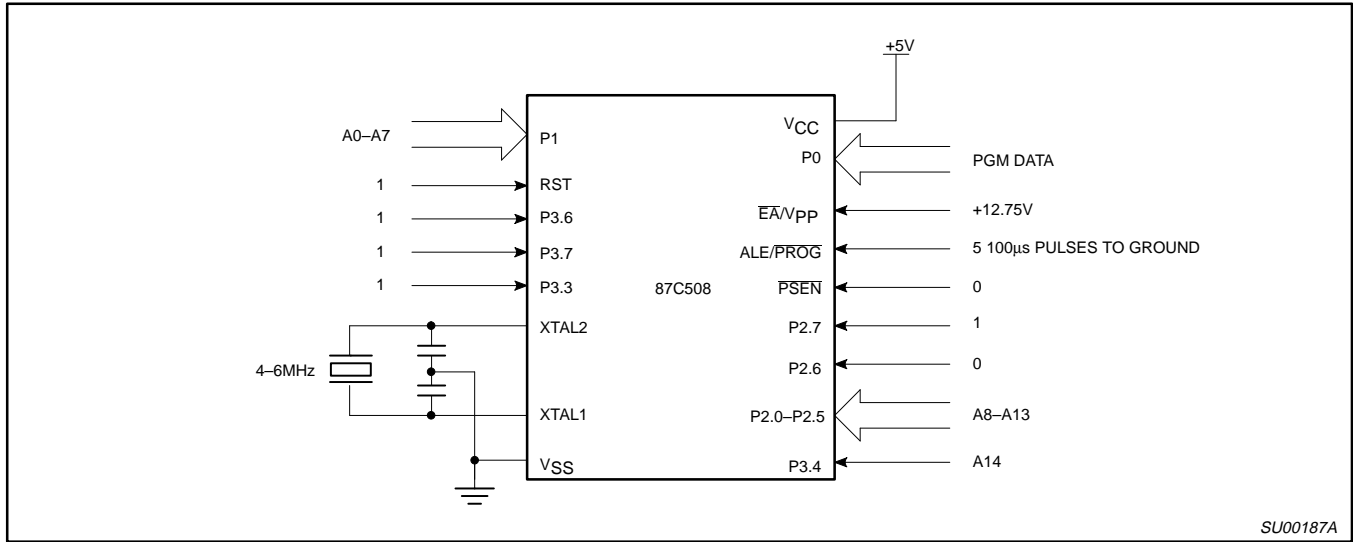
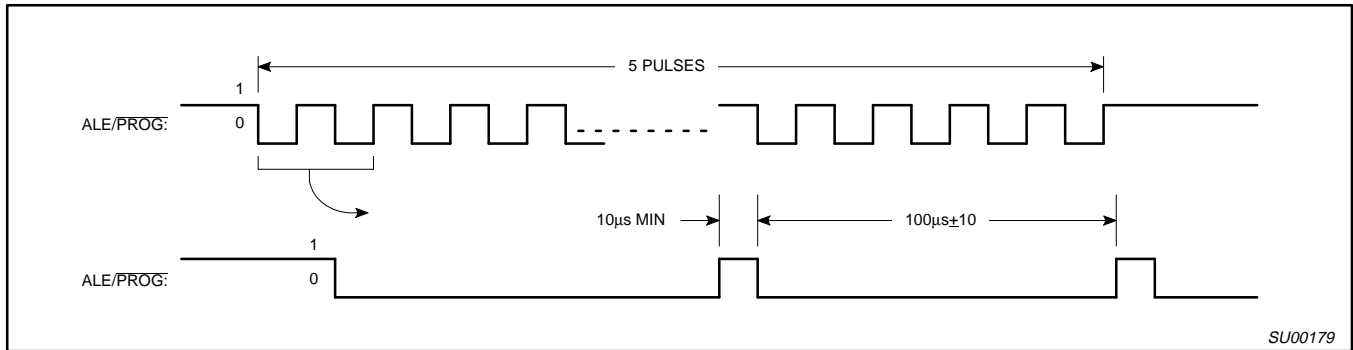
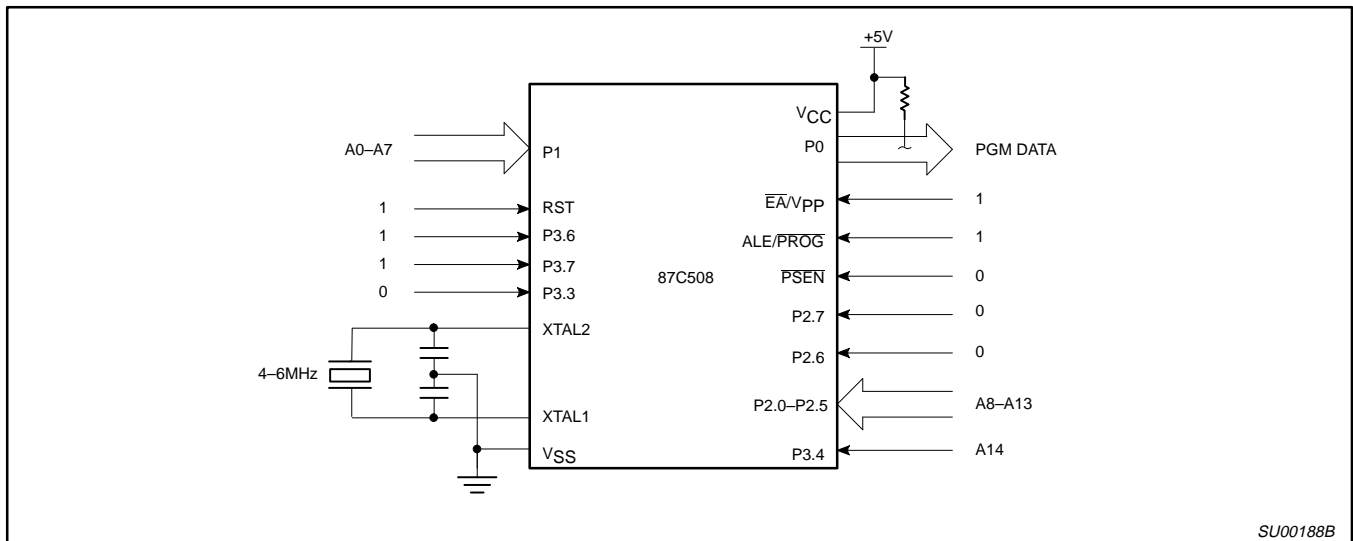

Figure 13. Programming Configuration
Figure 14. PROG Waveform
Figure 15. Program Verification
Table 3 shows the logic levels for reading the signature byte, and for programming the program memory, the encryption table, and the security bits. The circuit configuration and waveforms for quick-pulse programming are shown in Figures 13 and 14. Figure 15 shows the circuit configuration for normal program memory verification.
The setup for microcontroller quick-pulse programming is shown in Figure 13. Note that the 87C508 is running with a 4 to 6MHz oscillator. The reason the oscillator needs to be running is that the device is executing internal address and program data transfers.
The address of the EPROM location to be programmed is applied to ports 1 and 2, as shown in Figure 13. The code byte to be programmed into that location is applied to port 0. RST, PSEN and pins of ports 2 and 3 specified in Table 3 are held at the 'Program Code Data' levels indicated in Table 3. The ALE/PROG is pulsed low 25 times as shown in Figure 14.
If security bit 2 has not been programmed, the on-chip program memory can be read out for program verification. The address of the program memory locations to be read is applied to ports 1 and 2 as shown in Figure 15. The other pins are held at the 'Verify Code Data' levels indicated in Table 3. The contents of the address location will be emitted on port 0. External pull-ups are required on port 0 for this operation.
* FOR PROGRAMMING VERIFICATION SEE FIGURE 13.
FOR VERIFICATION CONDITIONS SEE FIGURE 15.